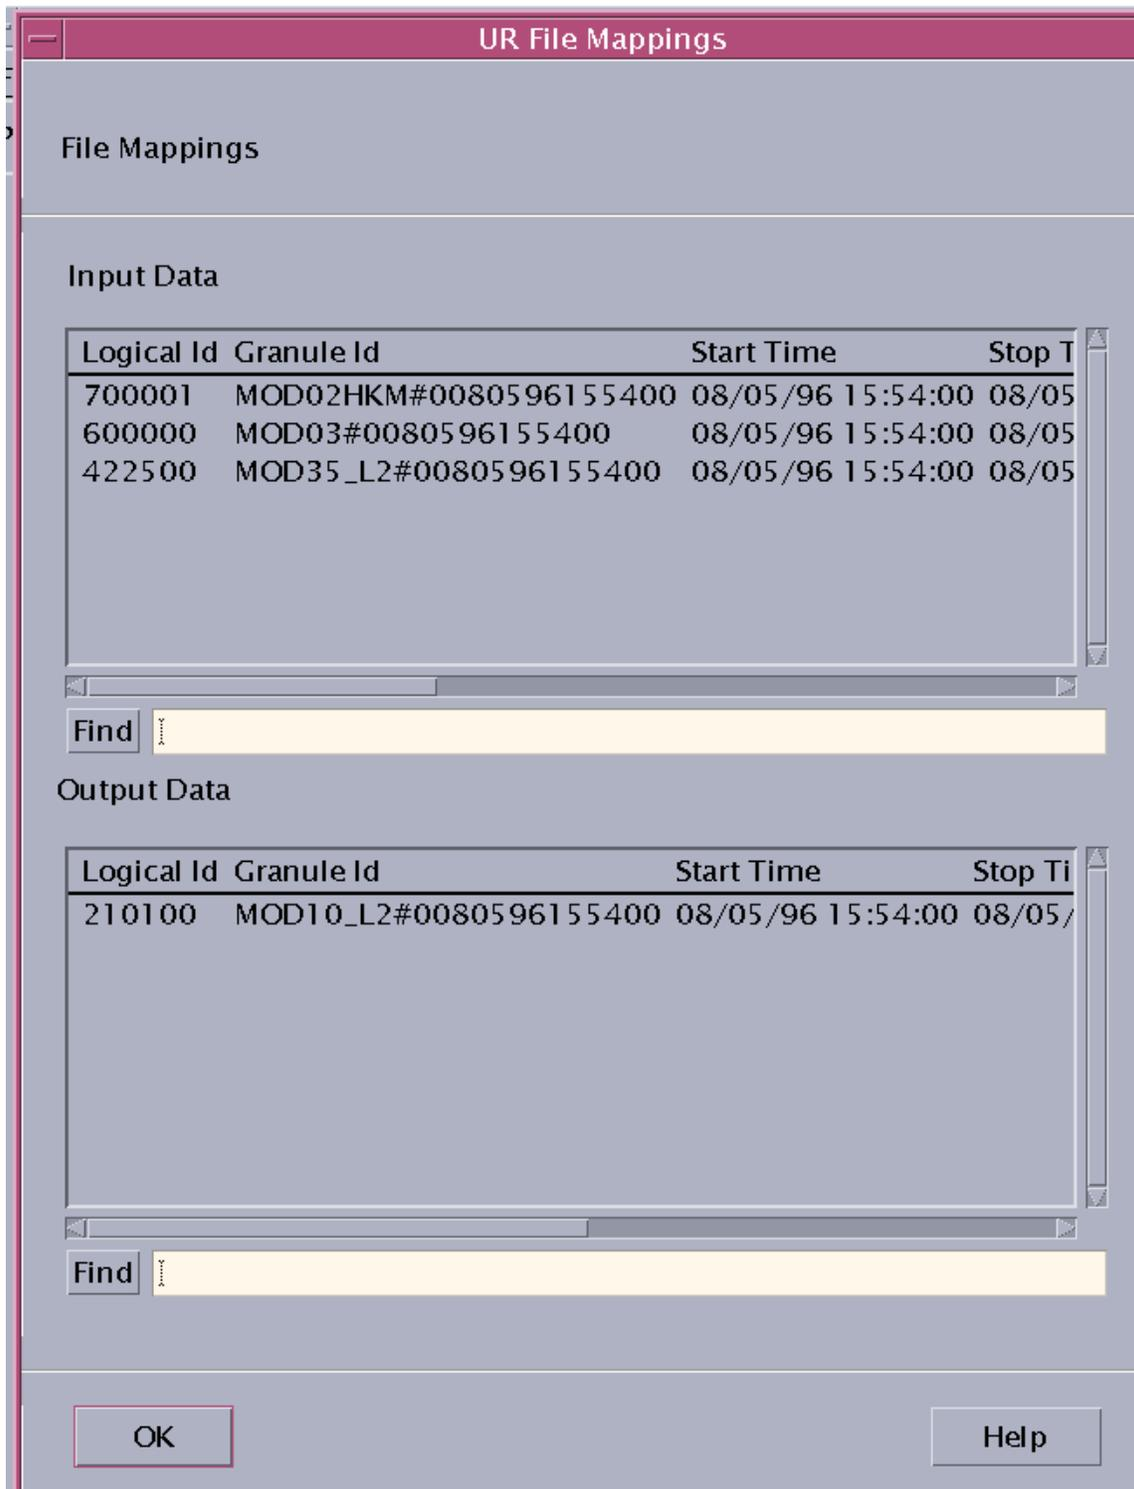

Figure 23. UR File Mappings GUI
- displays the input and output files for a particular DPR on the **UR File Mappings** GUI (Figure 23)
- Logical ID - The identification (ID) or tag used within the PGE to access the file.
- The **UR File Mappings** GUI (Figure 23) is displayed.